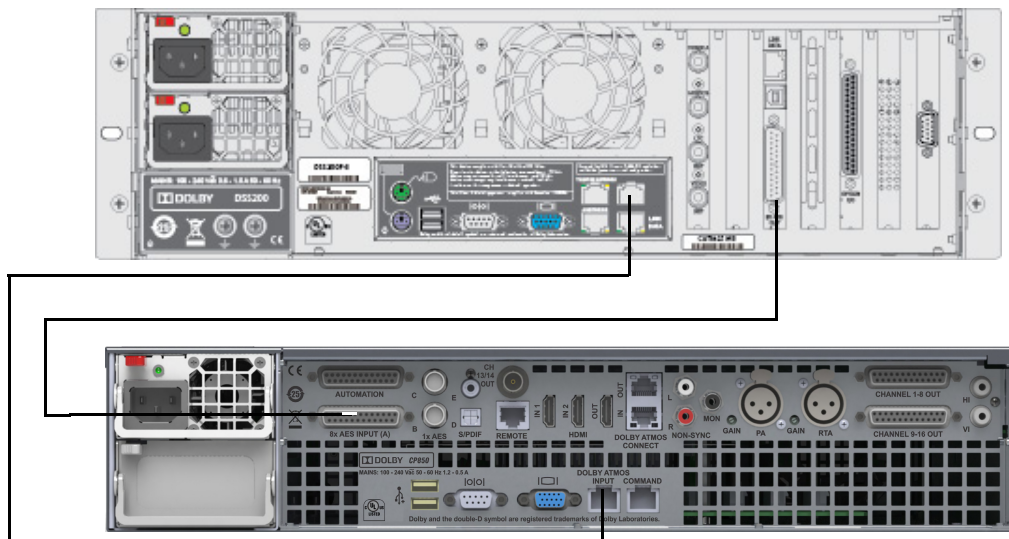

Figure 2-3 Connecting a DSS200-3 (Series 2) Playback System to the CP850
1. Use a CAT5E (or greater) Ethernet cable to connect the upper right-side Ethernet port on the DSS200 to the **DOLBY ATMOS INPUT** port on the CP850, as shown in Figure 2-3 for a DSS200-3 (Series 2) playback system.